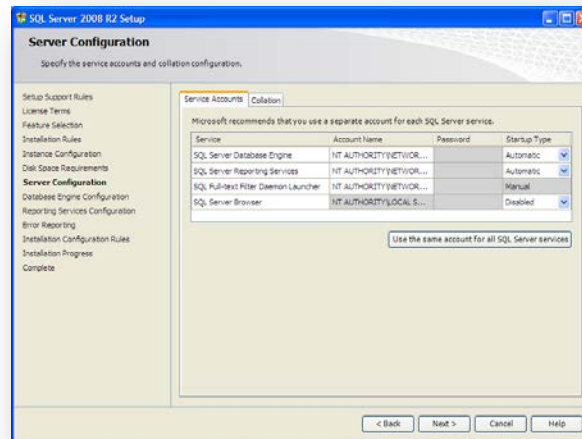

Figure 47 – Service Accounts
13. Click “Install” to install Windows Power Shell. See Figure 47.